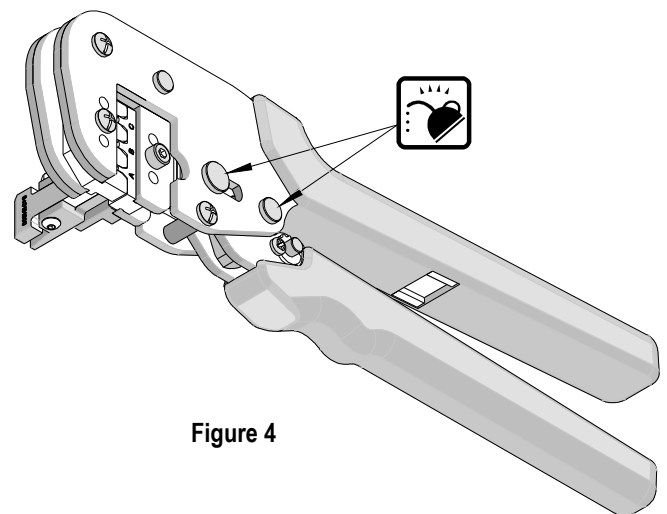

Figure 4
- Make certain all pins; pivot points and bearing surfaces are protected with a thin coat of high quality machine oil. Do not oil excessively. Light oil (such as SAE30W oil) applied at the oil points, shown in Figure 4, every 5,000 crimps or 3 months, is recommended.